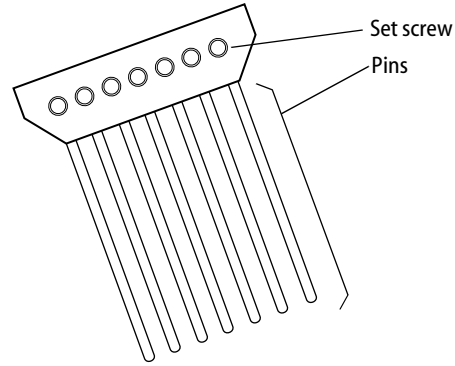

Figure 6—Decapping tool
- 5 Using the Decapping tool (see Figure 6), insert the pins into the holes in the bottom of the core to make sure that the decapping operation will be successful.
- For 5-pin cores remove two ejector pins by loosening two set screws at one end of the tool. See Figure 6.
- For 6-pin cores remove one ejector pin by loosening one set screw at one end of the tool. See Figure 6.